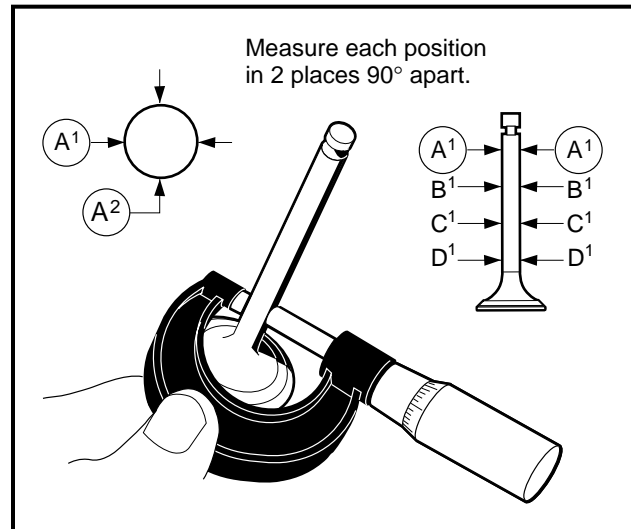

Figure 13-30 Measure Valve Stem Diameter
1. Using a micrometer, measure the diameter of the stem at several points along its length **(Figure 13-30, Page 13-18).**